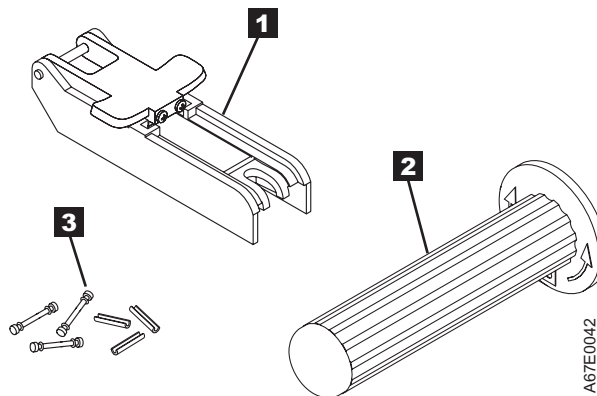

Figure 9-11. Leader Pin Reattachment Kit
- **Leader pin attach tool** (see **1** in Figure 9-11 on page 9-14). A plastic brace that holds the cartridge door open.
- **Cartridge manual rewind tool** (see **2** in Figure 9-11 on page 9-14). A device that fits into the cartridge's hub and lets you wind the tape into and out of the cartridge.
- **Pin supplies** (see **3** in Figure 9-11 on page 9-14). Leader pins and C-clips.